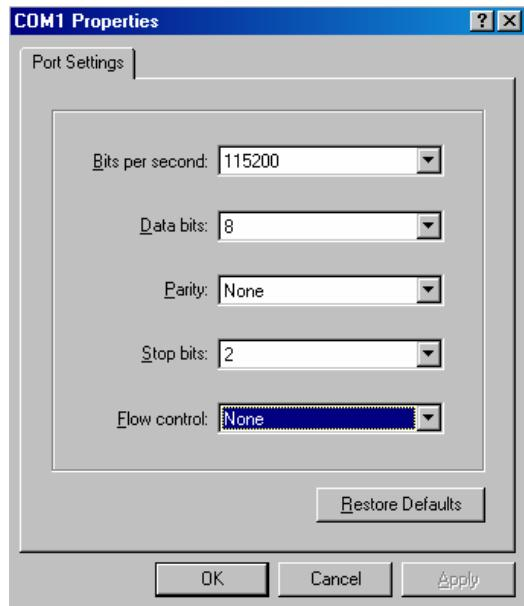

Figure 4-3: COM1 Properties
8. Press the <Enter> key or select OK. The “COM Properties” window will be displayed as shown in Figure 4-3.
9. Enter the information as listed in the COM1 Properties window (see Figure 4-3).